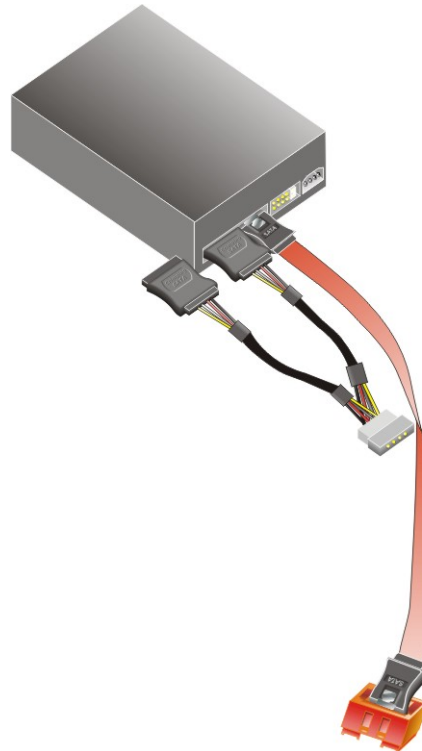

Figure 14: SATA Cables
Step 3: Attach the cables to the hard drive (Figure 14)